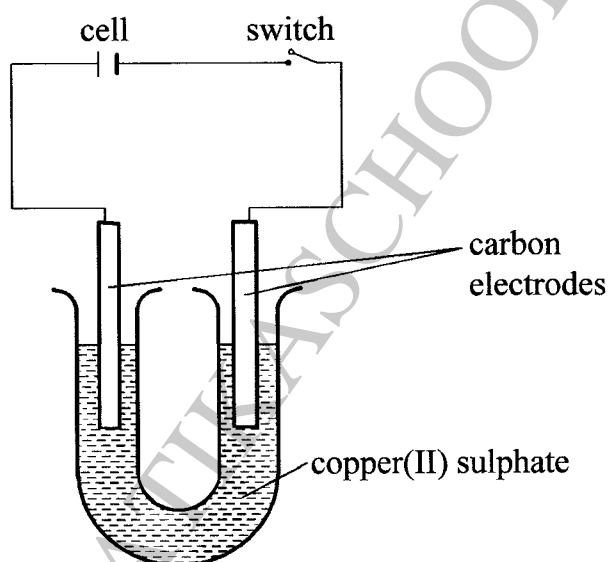

Figure 1
- (b) Copper(II) sulphate solution was electrolysed using the set up in **Figure 1**.